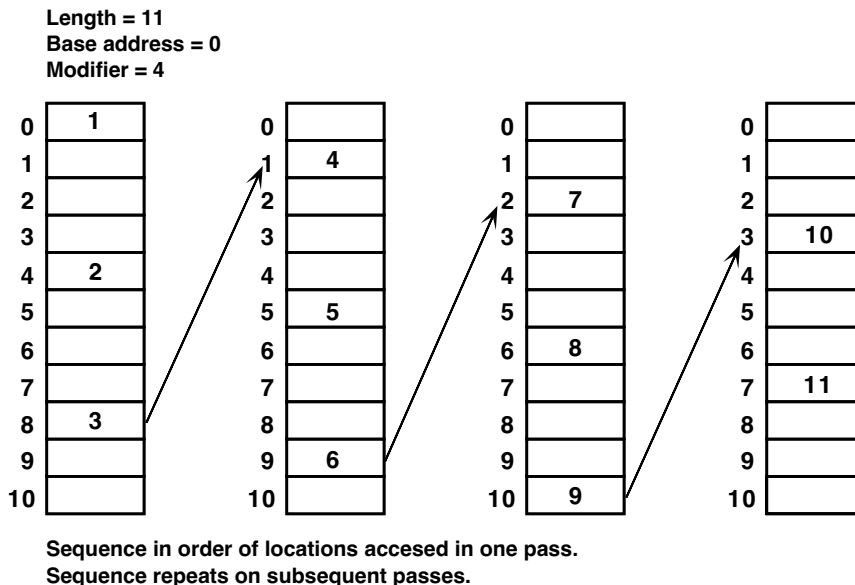

Figure 4-4. Circular data buffers
If the modified address pointer (M) falls outside the circular buffer, the processor either subtracts or adds, accordingly, the length of the buffer to the value to wrap the index pointer back to the start of the buffer (see Figure 4-4). The value of the base address of a circular buffer carries no restrictions.